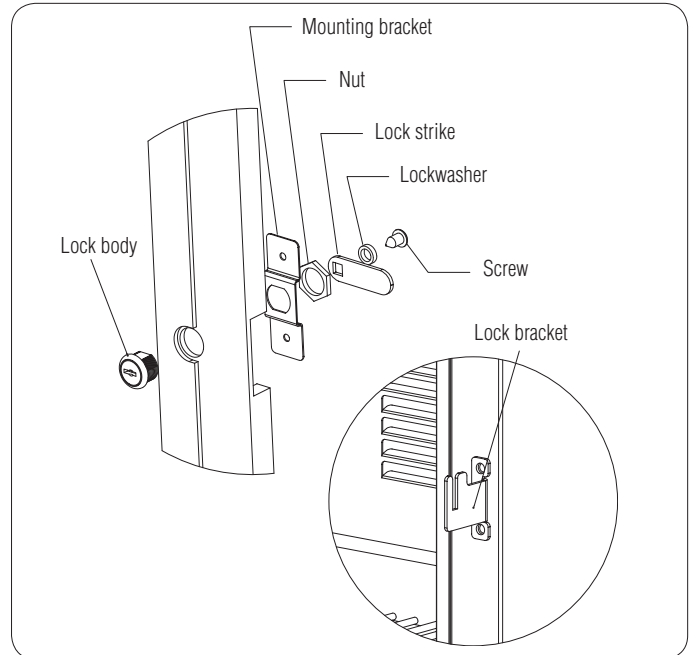

Figure 6. Door Lock - Optional
1. See Figure 6. Attach mounting bracket to wood overlay.
The condenser should be cleaned every 3 months. The condenser is located behind the toe plate (Figure 6). Remove the toe plate and use a soft bristle brush and vacuum to remove dust and lint. Avoid damaging or crushing the condenser fins or tubing. Upon completion, re-install the toe plate.